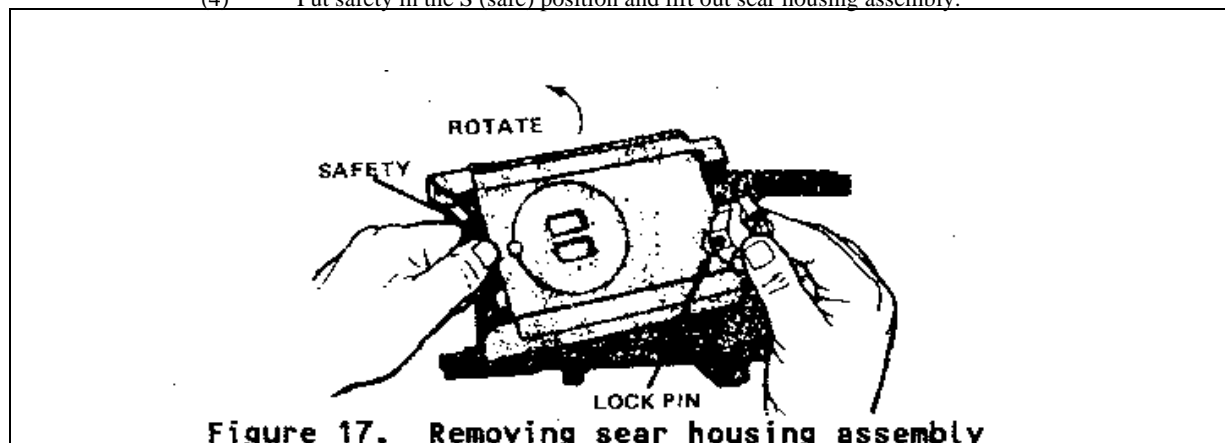

Figure 16. Removing sear housing assembly
- (1) Turn receiver upside down and ensure safety is on "F" (fire).
- (2) Lift lock pin with cartridge link.
- (3) Press receiver sear (underneath safety) and rotate sear housing assembly 90 degrees in either direction. (See Figure 16.)
- (4) Put safety in the S (safe) position and lift out sear housing assembly.